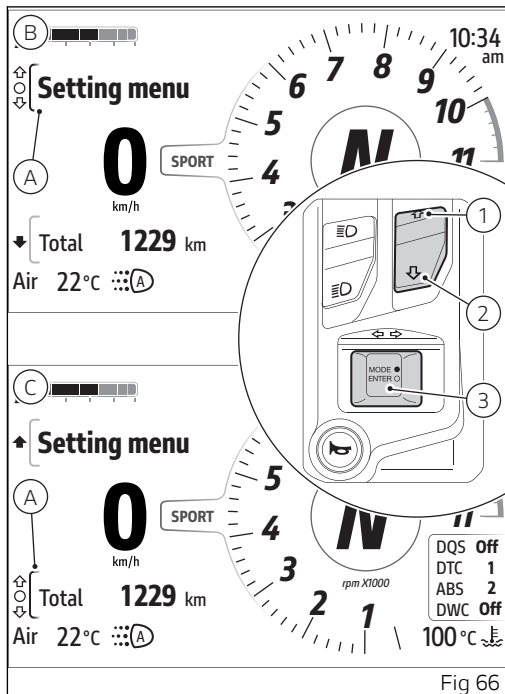

Fig 66
When one of the menus is selected, it is indicated with the active frame (A, Fig 66) and buttons (1), (2) and (3) are used for menu navigation and interaction. To toggle the selection between "Interactive menu" and "Info display" and vice versa:
- if "Interactive menu" is currently selected, long press and hold button (2) to move the selection to "Info display" (C, Fig 66);
- if "Info display" is currently selected, long press and hold button (1) to move the selection to "Interactive menu" (B, Fig 66).